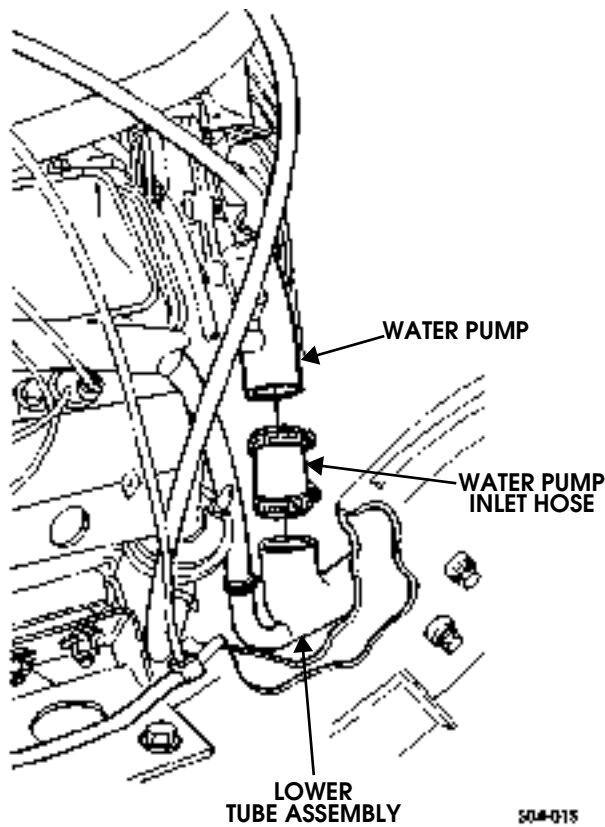

Figure 4-18: Water Pump Inlet Hose Location
2. Loosen clamps and remove water pump inlet hose from water pump and lower tube assembly (Figure 4-18).
1. Connect water pump inlet hose to lower tube assembly and water pump and tighten clamps (Figure 4-18).